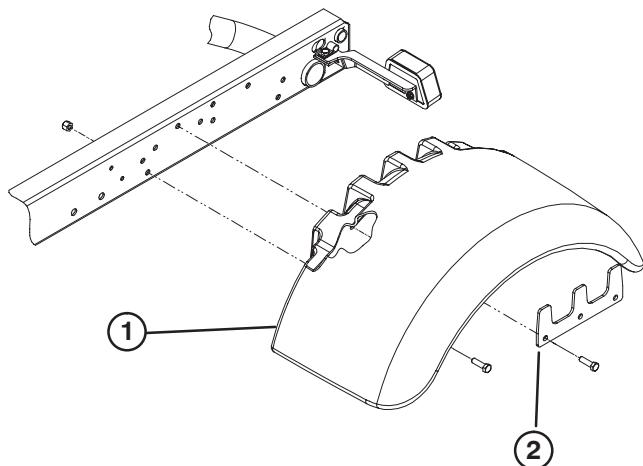

Figure 2
4. Loosely secure a fender to each side of frame with a support plate, (5) 3/8 x 1-1/4 in. capscrews, and a locknut as shown in figure 2.
**Note:** Weld nuts are in place to secure (4) of the capscrews.